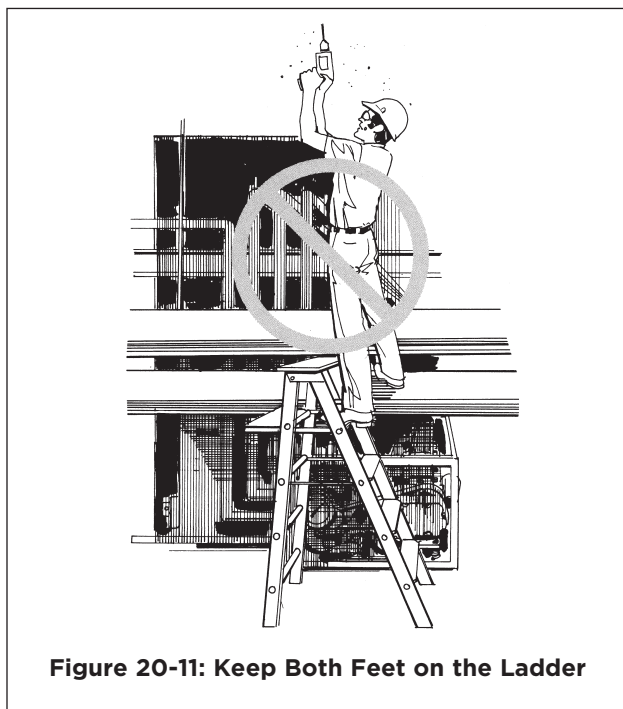

Figure 20-11: Keep Both Feet on the Ladder
- Keep both feet on the ladder when standing on it. Never straddle the space between a ladder and another object (Figure 20-11).